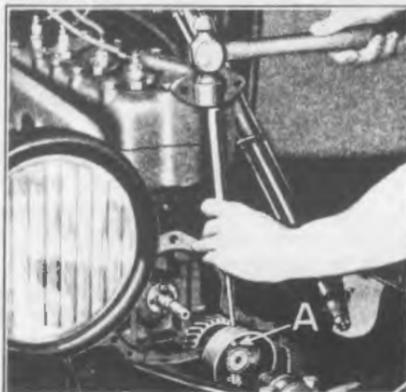

Fig. 274
- (c) Remove fan drive pulley by withdrawing cotter key and driving out crankshaft starting pin (See "A" Fig. 274) through hole in fan drive pulley. Pulley can then be withdrawn from shaft.